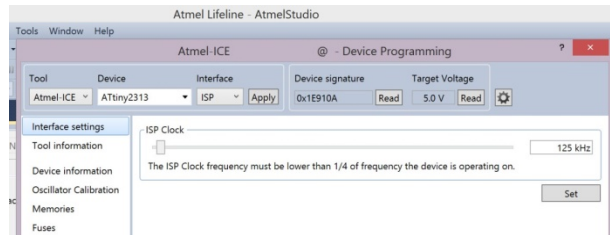

Figure 8: In 'Tools > Device Programming' set the programmer, read the device signature and set the ISP Clock.
- On the menu strip at the top of the AS6 window, select Tools > Device Programming. In the resulting dialog shown in Figure 8, the Tool box should show your programmer (either Atmel ICE or AVRISP MKII etc.), the device should be ATTiny2313A, and the acronym ISP should be in the 3rd box. Click APPLY. At this point, let AS6 upgrade the flash on the programmer if so requested. Refer back to Startup #1 Step 4 if the programmer did not correctly install the hardware update. Read the Target Volts – it should be within a few percent of 5V. Set the ISP Clock to 125 kHz to match that in Item 6 above. Several OKs will appear on the lower left side of the dialog.